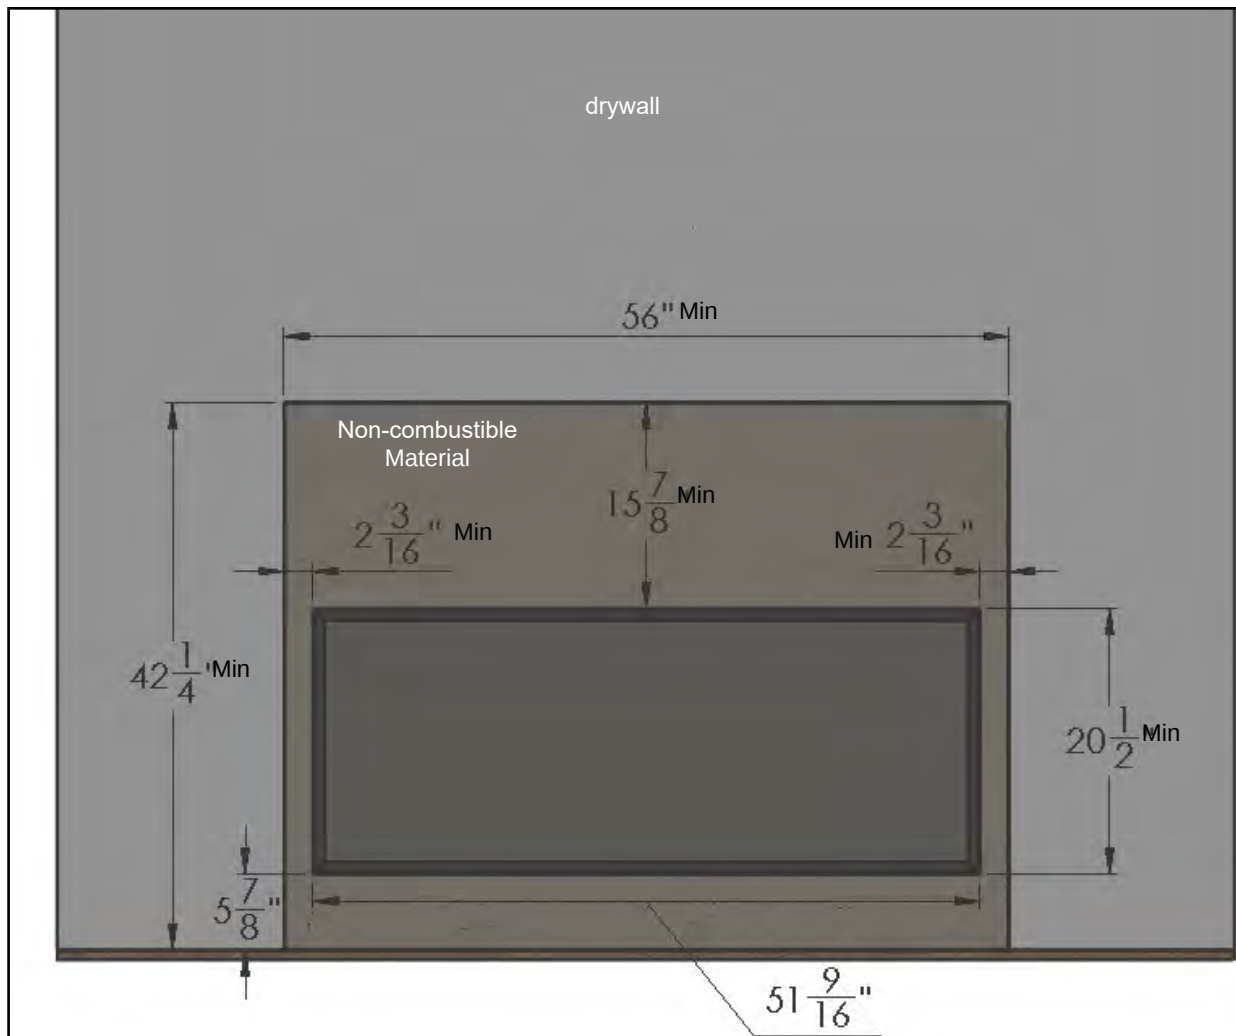

Figure 12.4.07: Dimensions of non-combustible material over face of fireplace
*See dimensions in Figure 12.4.07.